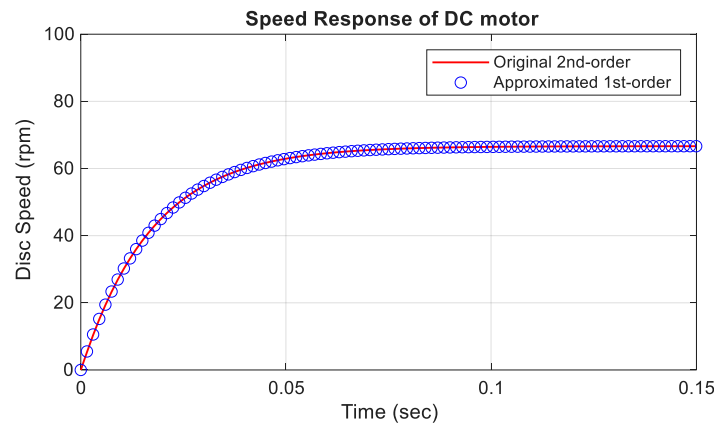

Fig. 2-3. Speed responses of the DC motor transfer function models to an input voltage step of 4V.
5. Using the transfer function models in Eq. 2-1(b) and Eq. 2-2(b), **simulate** and **plot** the DC motor **speed response** of this, in **rpm**, to a 4 V step input voltage, as shown in Fig. 2-3. Apply a scaled step input as the motor voltage V_m , and plot the load disc angular velocity (speed) ω_{ld} over time.
- a. **Justify** whether the 1st-order DC motor speed model is a good approximation of the original model based on pole positions and visually comparing their step responses Fig. 2-3.